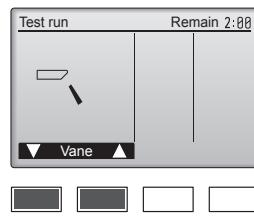

Fig. 7-6
- ① Check the auto vane with the [F1] [F2] buttons. (Fig. 7-6)
② Press the [RETURN] button to return to “Test run operation”.
③ Press the [ON/OFF] button.